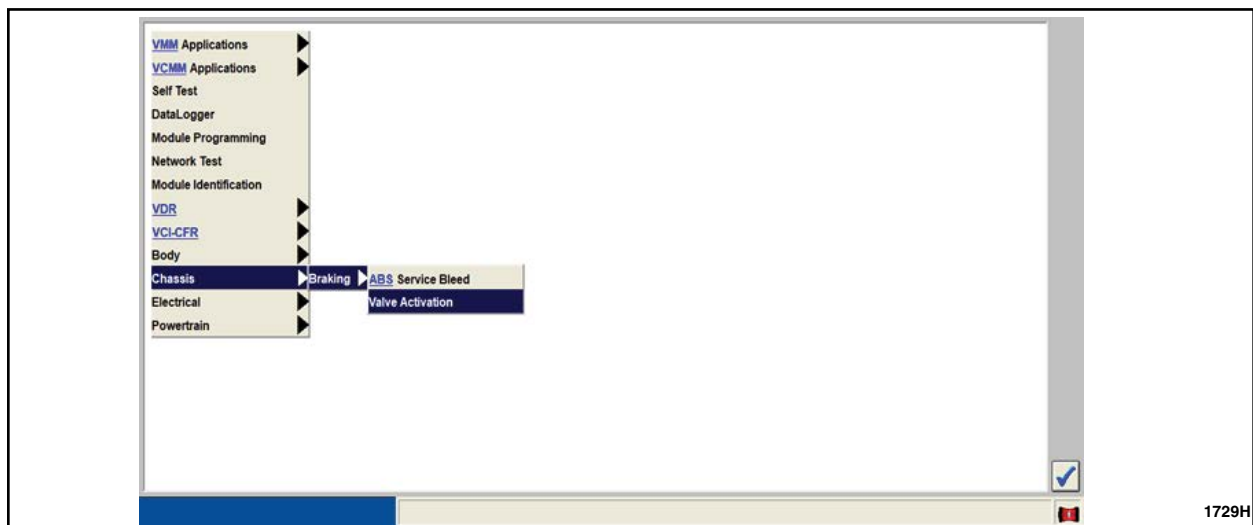

FIGURE 1
6. Select the "Tool Box" tab then "Chassis", "Braking" then "Valve Activation". See Figure 1.